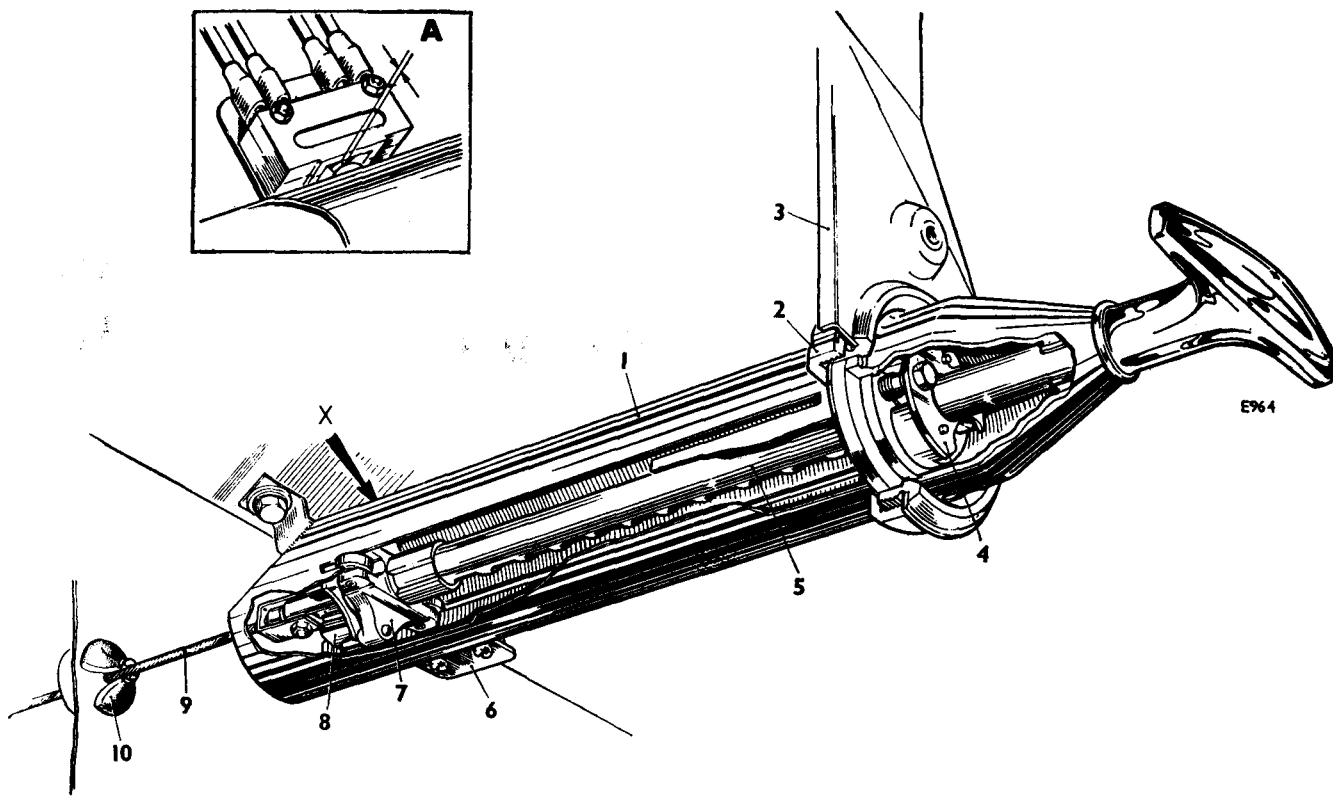

FIG. G57 HAND BRAKE RATCHET ASSEMBLY
1. Set the microswitch so that when the hand brake is in the 'OFF' position there is a nominal gap of 0.025 in (0.06 mm.) between the roller and the switch face (*see Fig. G57*).